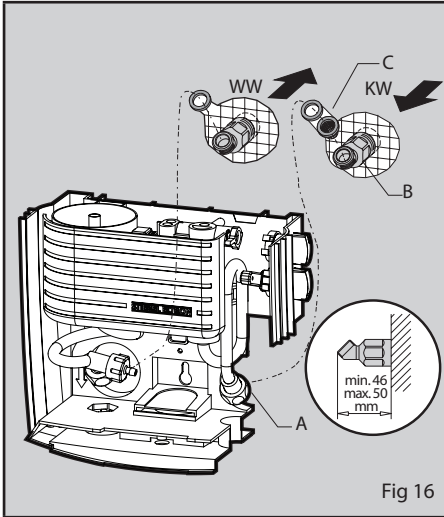

Fig 16
- Connect the nipple joints (Fig 16/B) to the cold water inlet pipe and the hot water outlet pipe embedded in the wall at an appropriate position and depth (please pay attention to the distances shown in the diagram).
- Screw the joints on the unit (Fig 16/A) to the joints (both hot and cold water), using a rubber leakage gasket (Fig 16/C) between the joints.